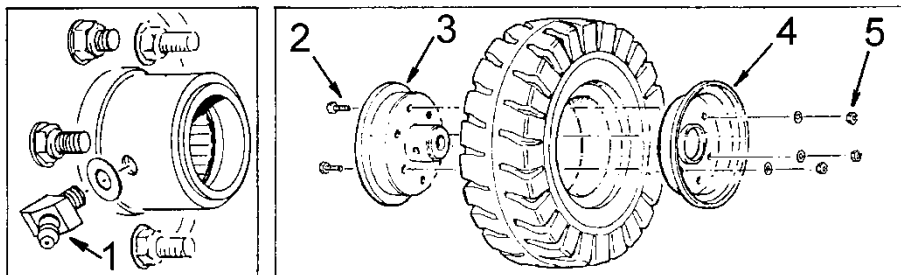

Fig 7.5 – Tyre Changing
2. Unscrew and remove the three wheel bolts and nuts (Fig 7.5 items 2&5).
3. Remove the inner and outer wheel rims (Fig 7.5 items 3&4) from the tyre. This may require a press.